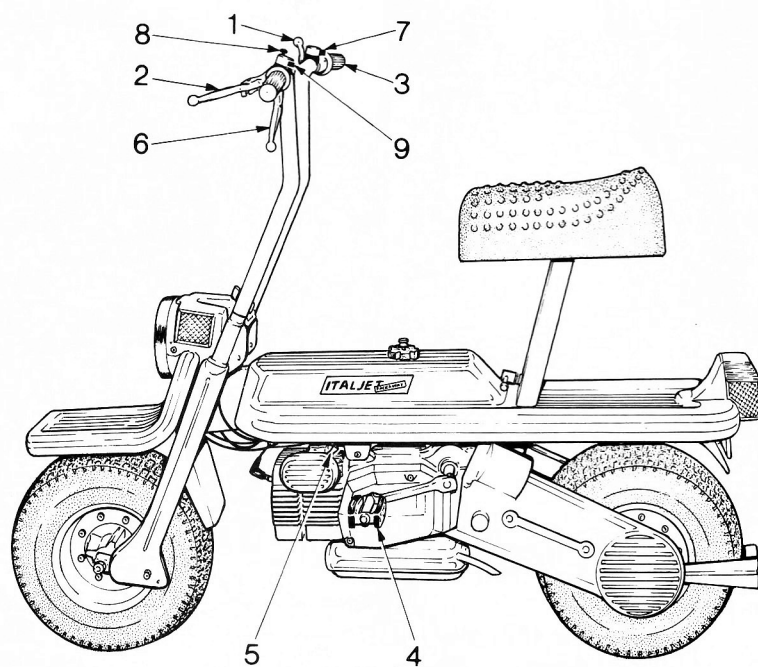

Fig. 1
**CONTROLS (Figs. 1 - 2 - 3)**